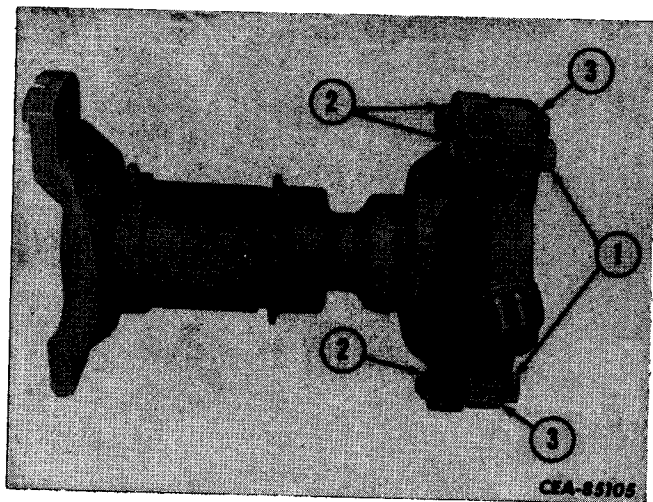

Figure 5-11
Install cap screws (1, Fig. 5-11) and lock nuts (2) in bearing caps (3). Torque cap screws and lock nuts (refer to "SPECIAL TORQUES").